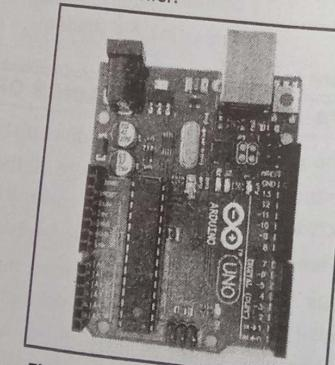

Fig. 4.12 : Arduino Uno board
- Fig. 4.12 shows the Arduino Uno board.